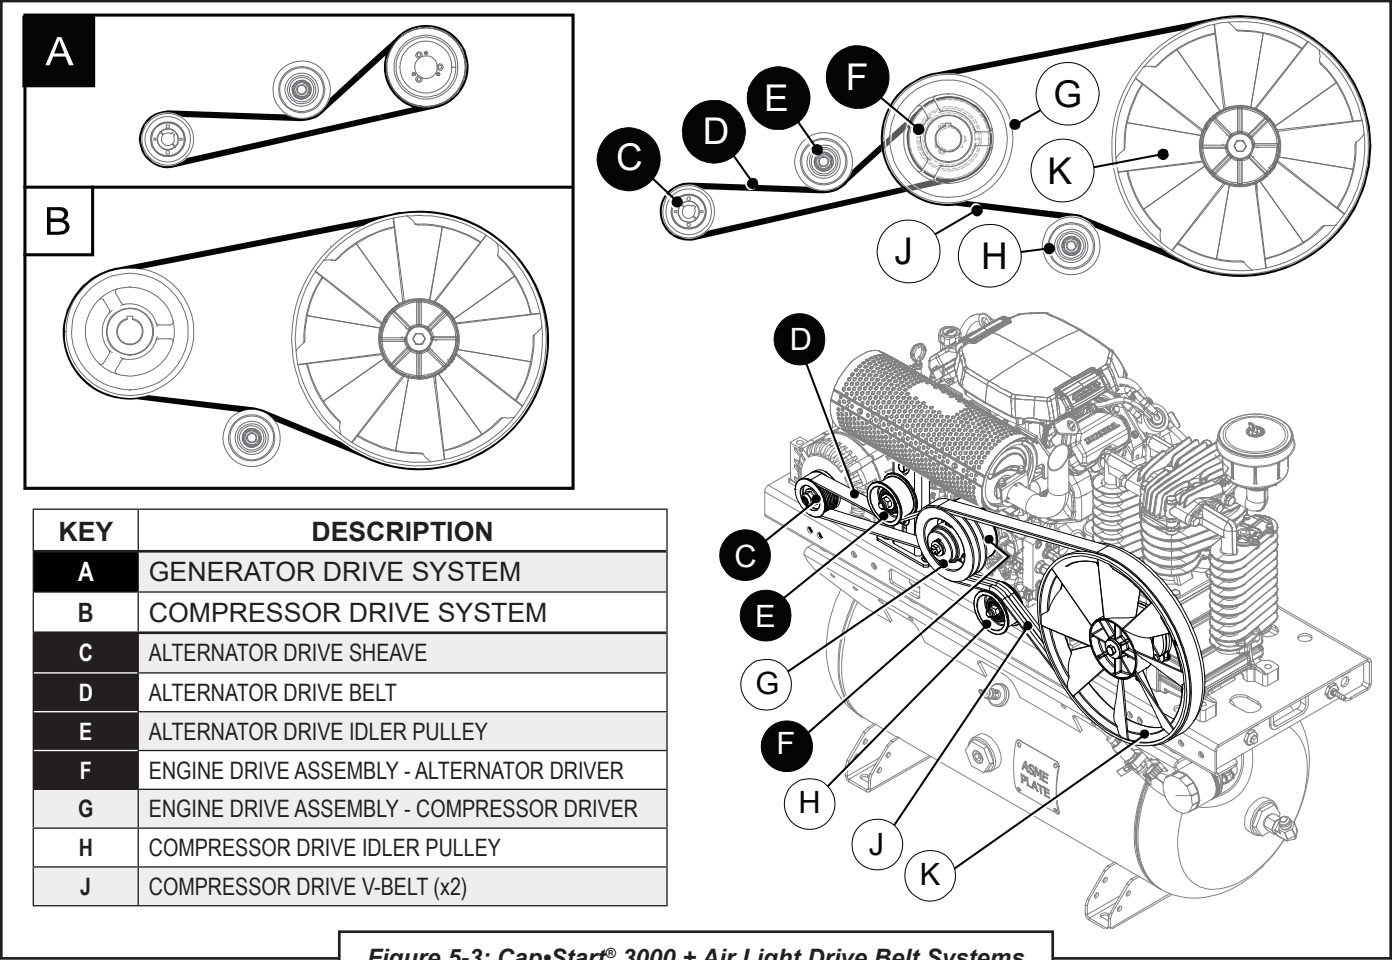

Figure 5-3: Cap•Start® 3000 + Air Light Drive Belt Systems
Refer to **Figure 5-3**. The compressor and alternator are driven by the engine via the use of
3. Remove the worn drive belt and replace with new belt. Note that the compressor drive belt tracks to the engine sheave closest to the engine; follow **Figure 5-3** to assure belt track is correctly placed.